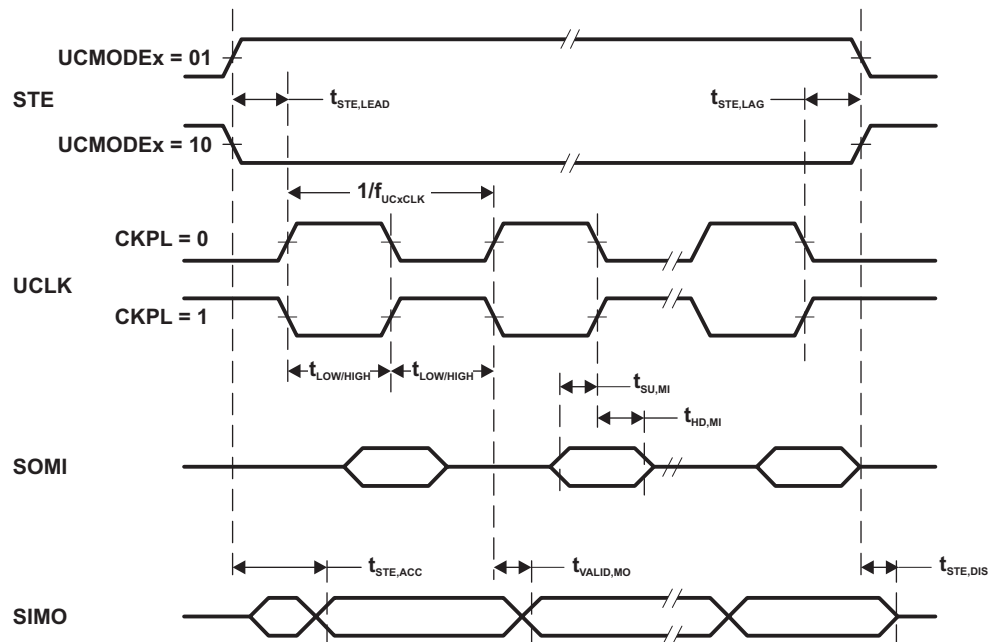
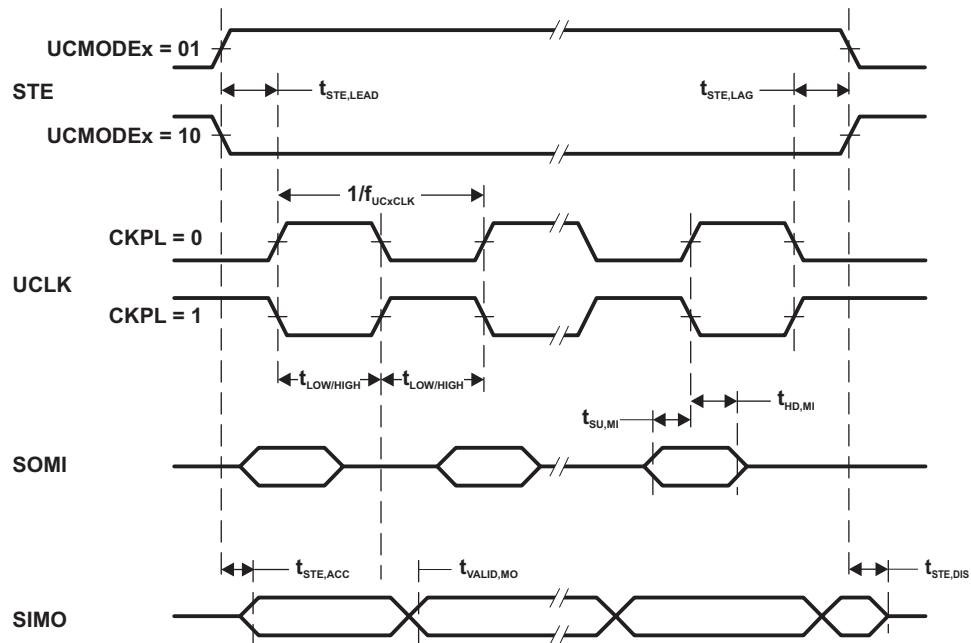

Figure 5. SPI Master Mode, CKPH = 0
Figure 6. SPI Master Mode, CKPH = 1
(2) Specifies the time to drive the next valid data to the SIMO output after the output changing UCLK clock edge. See the timing diagrams in Figure 5 and Figure 6.
(3) Specifies how long data on the SIMO output is valid after the output changing UCLK clock edge. Negative values indicate that the data on the SIMO output can become invalid before the output changing clock edge observed on UCLK. See the timing diagrams in Figure 5 and Figure 6.